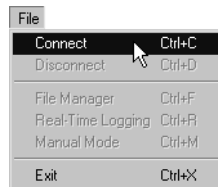

Figure 2-2. Click File->Connect
2. Click **File->Connect** (Figure 2-2).